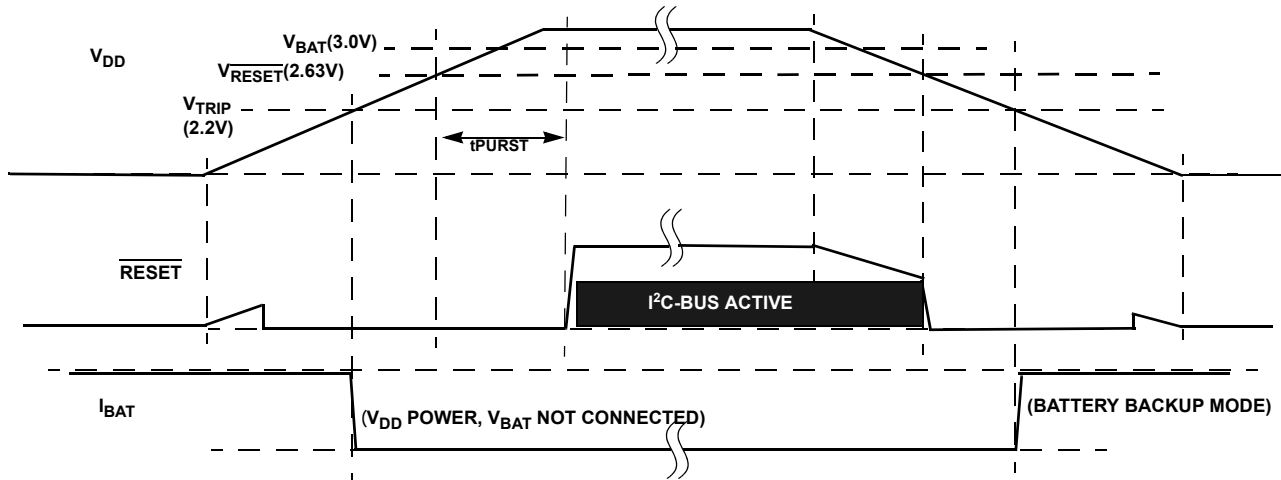

FIGURE 29. EXAMPLE RESET OPERATION IN MODE A OR C
- Mode A - In this mode, selection bits indicate a low V_{DD} switchover combined with I²C operation in battery backup mode. In actuality the V_{DD} will go below V_{RESET} before switching to battery backup, which will disable I²C ANYTIME the device goes into battery backup mode. Regardless of the battery voltage, the I²C will work down to the V_{RESET} voltage (see Figure 29).
- Mode C - In this mode, the selection bits indicate a low V_{DD} switchover combined with no communications in battery backup. Operation is actually identical to Mode A with I²C communications down to $V_{DD} = V_{RESET}$, then no communications (see Figure 29).